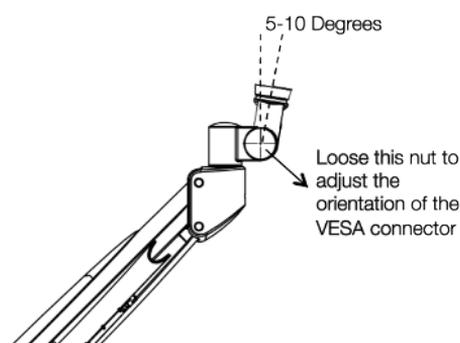

Figure 7 - Adjust the orientation of the VESA connector
2. **Adjust the orientation of the VESA connector** as shown in Figure 7. To do it, loosen the nut with the tool provided with the device, change the orientation to be between 5 and 10 degrees as shown in Figure 7 and then tighten the nut again.